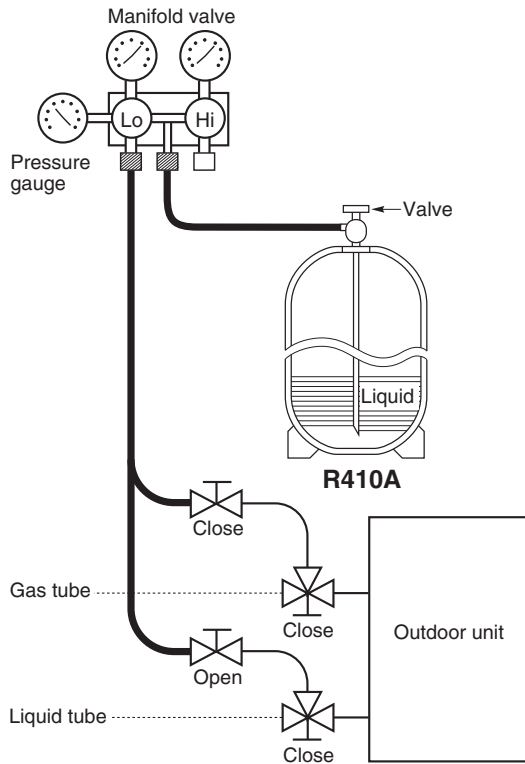

Fig. 6-5
- Charging additional refrigerant (calculated from the liquid tube length as shown in Section 1-7 “Additional Refrigerant Charge”) using the liquid tube service valve. (Fig. 6-5)